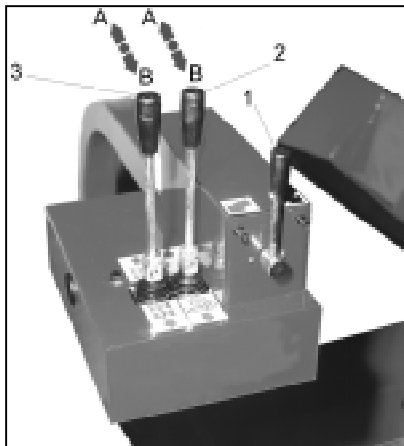

Fig.14
- B.** Operate the chuck rotation switch (#1 Fig.14) to the right : the chuck rotates clockwise.
- C.** Operate the chuck arm control (#2 Fig.14) to position **A** : the chuck arm moves upwards.
- D.** Operate the toolholder carriage control (#3 Fig.14) to position **A** : the carriage moves towards the machine.